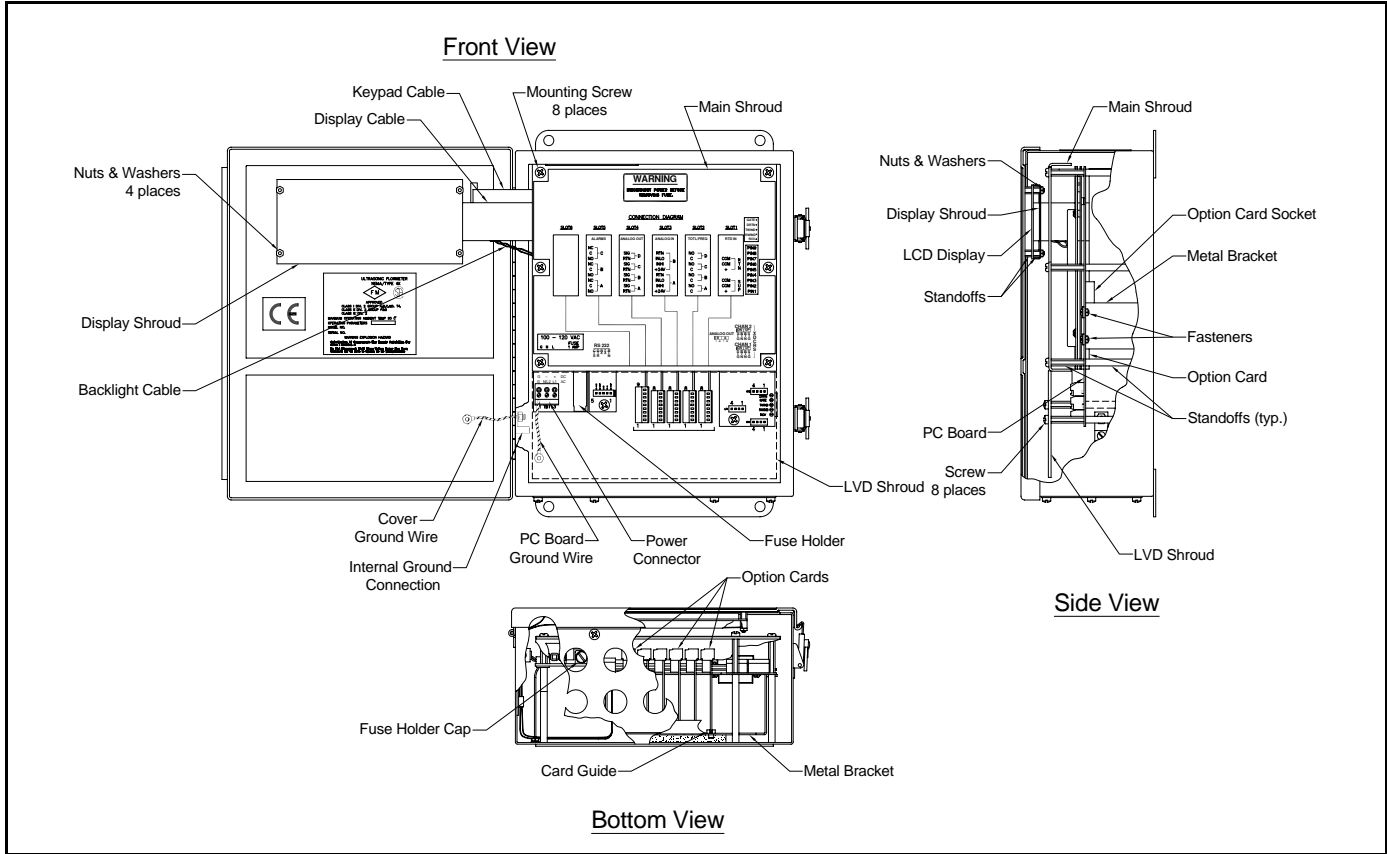
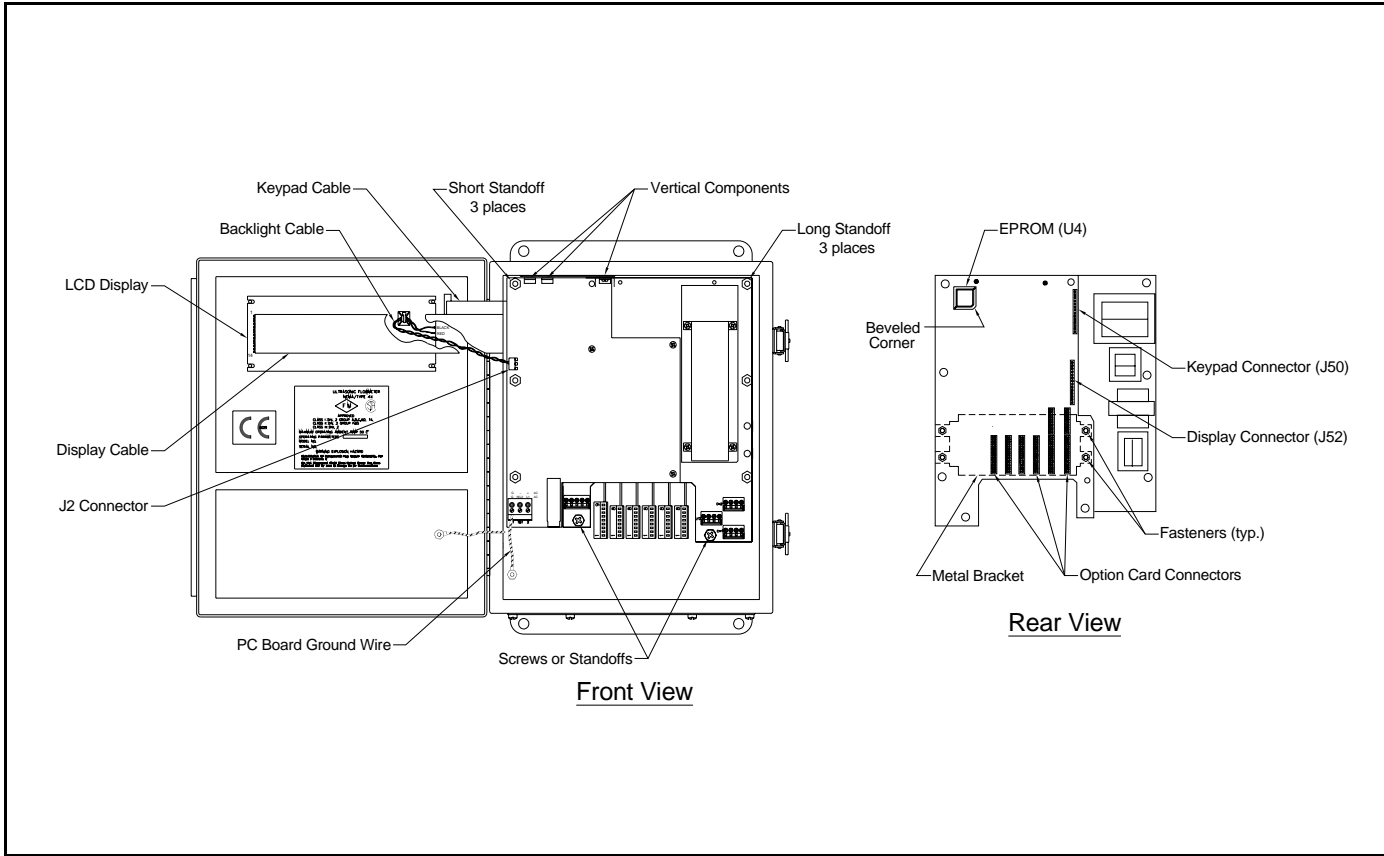

Figure 4-1: Standard Model GF868 - Electronics Console Assembly
Figure 4-2: Standard Model GF668 - Printed Circuit Board Assembly
The Model GF868's *User Program* is stored on an erasable programmable read only memory (EPROM) chip. The EPROM, which is designated as component U4, is located in the top left corner of the rear of the printed circuit board. See Figure 4-2 on page 4-11 for a rear view of the printed circuit board. EPROM replacement may be required to replace a defective chip or to upgrade to a newer software version. To replace the EPROM, complete the following steps:
To install an option card, refer to Figure 4-2 on page 4-11 and complete the following steps:
5. Place the metal bracket over the option cards, making sure that all option cards are aligned with the plastic card guides in the bracket. Secure the metal bracket to the printed circuit board with the snap rivets provided. Refer to the installed assembly in Figure 4-1 on page 4-10.
The Model GF868's measurements are displayed on a two-pane LCD graphic display panel. The LCD display normally provides years of dependable service, but it is easily field-replaceable when necessary. To replace the LCD display, see Figure 4-1 on page 4-10 for the component locations, and complete the following steps:
4. Place the new LCD display assembly over the mounting studs on the console cover and fasten it in place with the four standoffs. Make sure that the LCD display assembly is oriented as shown in Figure 4-2 on page 4-11.
Whether the printed circuit board was removed for replacement or for one of the other procedures discussed in this chapter, reinstallation of the printed circuit board is the final step in the process. Refer to Figure 4-1 on page 4-10 and complete the following steps:
During this procedure, be very careful not to damage the vertical components along the top edge of the printed circuit board (see Figure 4-2 on page 4-11). Severe or repeated bending of these components will break their leads.
1. Position the printed circuit board within the electronics console with the top edge tilted forward. Insert the display ribbon cable and keypad ribbon cable connectors into their sockets on the rear of the printed circuit board. See Figure 4-1 on page 4-10 and Figure 4-2 on page 4-11 to identify the cables and sockets. Note that the keypad cable connects to the upper socket and the display cable connects to the lower socket.